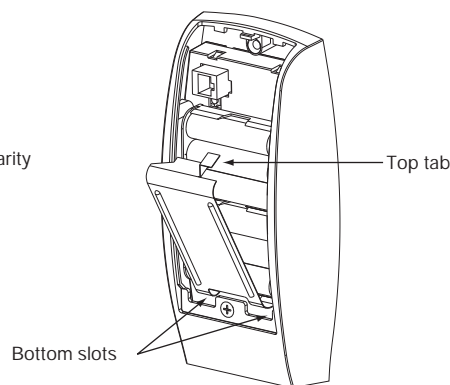

Fig. 6
2. Install battery keeper clip by inserting tabs into bottom slots first (Fig. 6). To remove keeper, pull on top tab. For RF Technology version refer to Section 9.